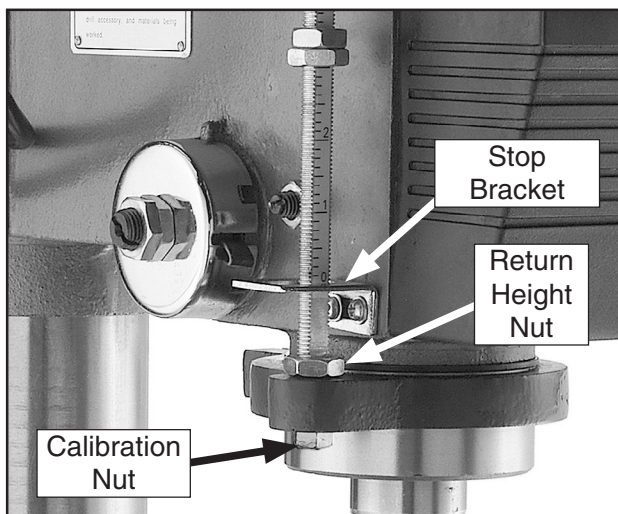

Figure 36. Depth stop assembly.
1. Loosen the return height nut and calibration nut shown in **Figure 36**.